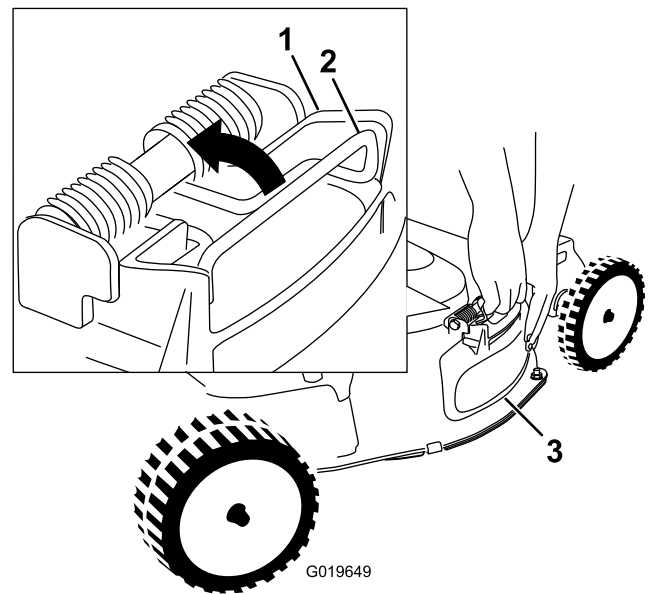

Figure 26
4. Remove the side-discharge deflector by pulling up on the spring that holds the deflector in place and removing the deflector (Figure 26).